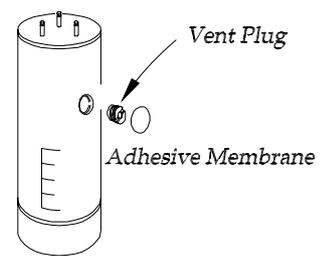

Fig. 5.1.12
9. Remount the vent plug (fig. 5.1.12), cover the vent plug with a new adhesive membrane and gently shake the sensor to dislodge any air bubbles which may have formed around the electrode.